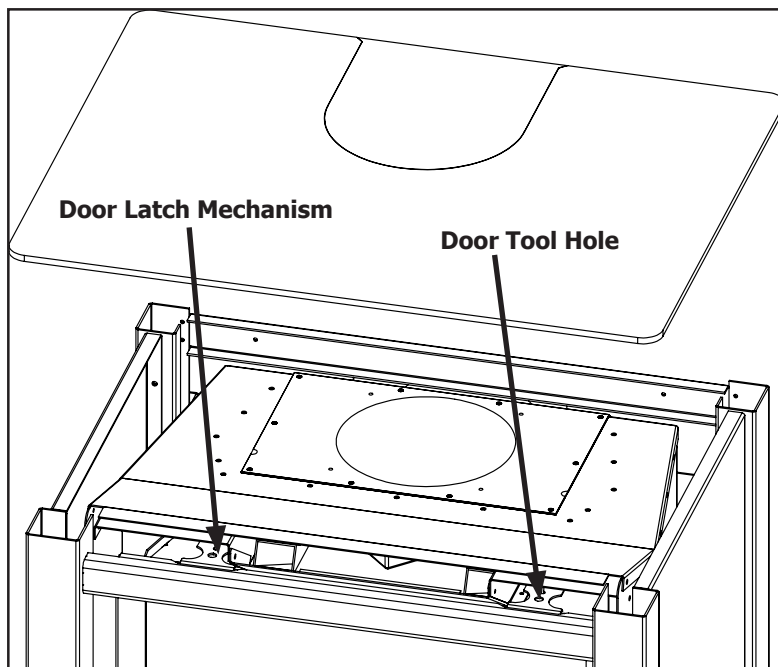

Figure 8. Top latches for glass door (louvers removed)
In order to install the log set, and for regular cleaning, the glass door must be removed. The Face must first be removed, as outlined in the section above, before accessing the door latches. There are two (2) door latch mechanisms on top the glass door as shown in Figure 8. Each latch has a hole at the front to use the door tool, supplied with the unit, to pull the mechanisms straight out and up. When the top latches are unhooked, lean the door forward and then lift it up out of the alignment slots at the bottom corners of the firebox.